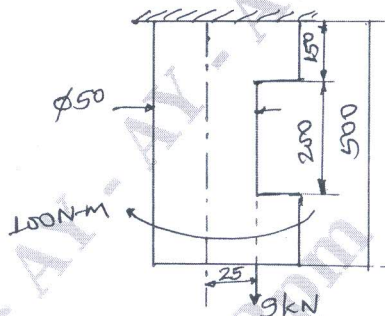

Fig. Q1 (a)
- b. A steel member has a torque of 100 N-m and an axial load of 9000 N, applied as shown in Fig. Q1 (a). What are the magnitudes of maximum shear stress, maximum normal stress and minimum normal stress. (15 Marks)